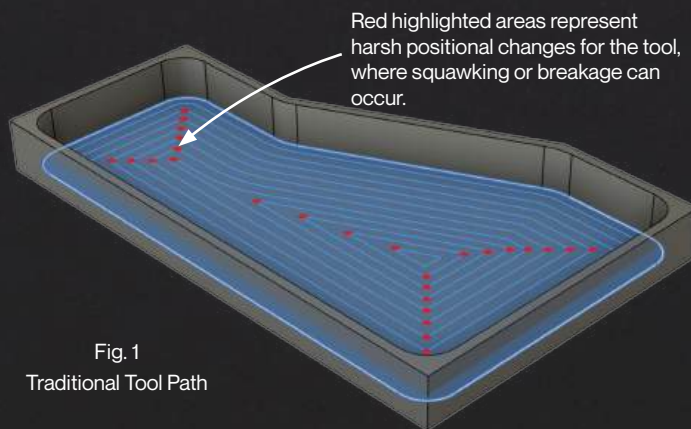

Fig. 1
- **Areas of concern:** In the given section, denoted as (Fig. 1), there are a total of 27 troubled regions that raise concerns or indicate issues, shown by red dots.